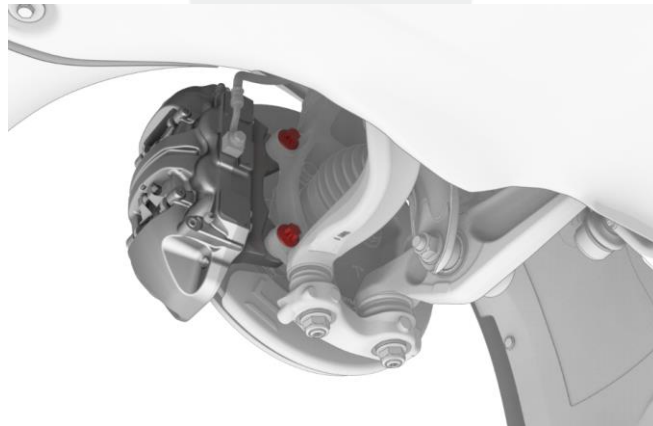

Figure 1 – Front caliper shown; rear caliper similar
4. At the LH front corner of the vehicle, inspect the following components for damage. Note any damage found in the “Cause Narrative” field of the Repair Order (RO).
5. Inspect the LH front brake caliper mounting bolts (Figure 1).